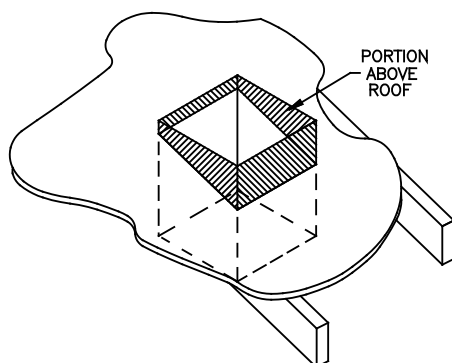
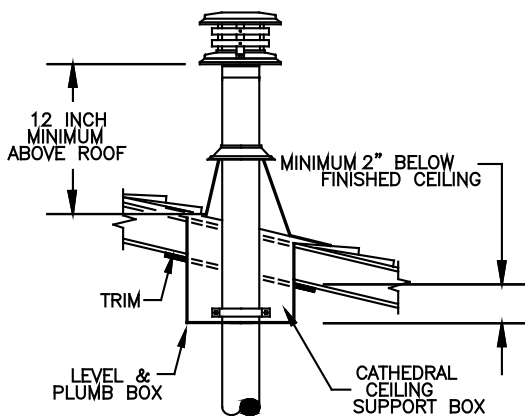

Figure 30
Figure 31
6. Run the Support Box through the roof as shown in **(Figure 30)**, and place it so that the bottom of the Support Box protrudes at least 2 inches below the low side of your opening in the finished ceiling **(Figure 31)**. Align the Support Box vertically and horizontally with a level. Temporarily tack the Support Box in place through the inside walls and into the roof sheathing.